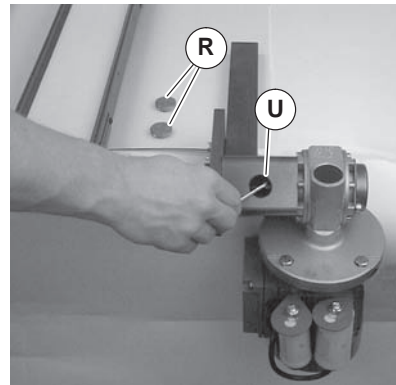

Figure 30
REPLACE INSPECTION PLUGS (Figure 30, item R) BEFORE RUNNING CONVEYOR.
12. Tighten coupling set screws (Figure 30, item U). Replace inspection plugs (R).